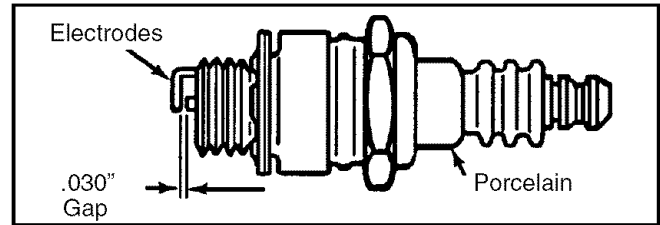

Figure 17
- Replace the spark plug if electrodes are pitted, burned, or the porcelain is cracked. See Figure 17 .